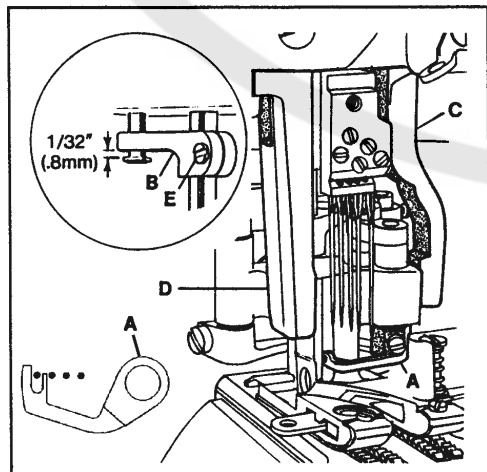

FIG. 20
Remove the presser bar regulating screw and the presser spring. Raise the needle bar to its highest position and remove the retainer. As the foot is slipped under the needles, swing the upper knife into the opening on the right side of the foot and slide the linkage onto the hook driving sleeve. Insert the presser bar through the linkage and into the presser foot shank. Tighten presser foot screw. With the presser bar inserted properly into the presser foot, position the foot left to right so the finger of cover thread carrier (A, Fig. 20) is between the first and second needles. Set presser bar guide (B, Fig. 20 Inset) so foot will not move. Set right presser foot guide (C) and left presser foot guide (D) to maintain setting. Loosen presser bar guide screw (E Fig. 20 Inset) and check to see that foot has vertical freedom with no right to left play, no bind. Put the needle bar in its lowest position, and set 1/32"(.8mm) above head of presser bar guide stud. Tighten presser bar guide screw (E).
Turn the handwheel in operating direction until link (A, Fig. 20) has traveled fully to the front. There must be a $1/64$ " (0.4mm) clearance between link (A) and the back of needle head (B) when link (A) starts to jackknife. Loosen screw (C) and rotate driving sleeve (D) to position link (A). Tighten screw (C).